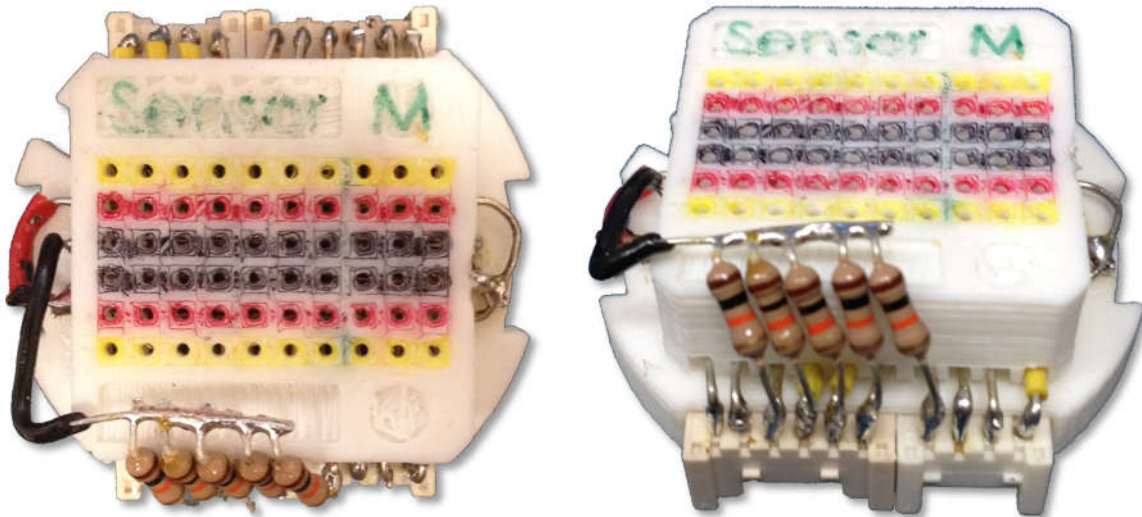

Figure 25: Finished soldered connections for breadboard hub, top and front view
10. Solder the yellow jumper wires to the appropriate receptacle pins, and the 100 k $\Omega$  resistors to appropriate receptacle pins as shown in Figure 25: